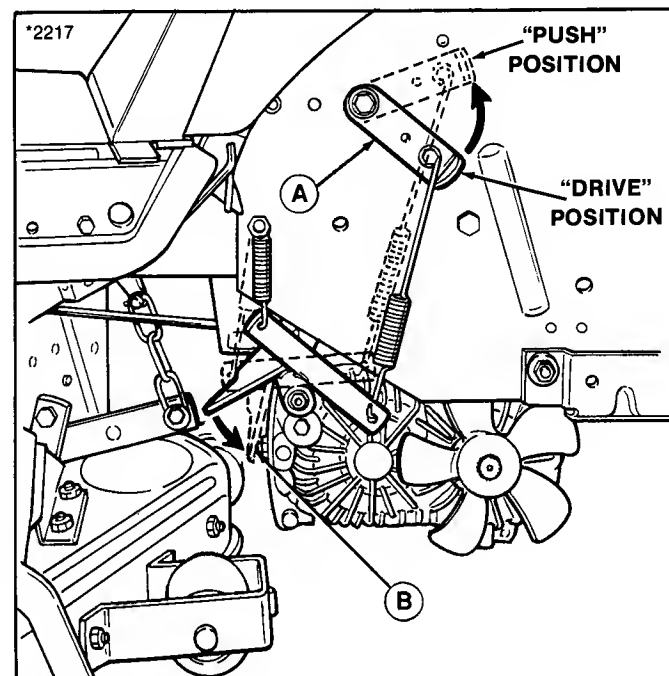

Figure 10.
To push the tractor by hand, the hydro release lever (A, figure 10) must be in the "PUSH" position. Rotate the lever upwards and engage lever capscrew in wrapper hole. To drive tractor, rotate lever downward, making sure that bottom of lever is several inches away from plunger (B).